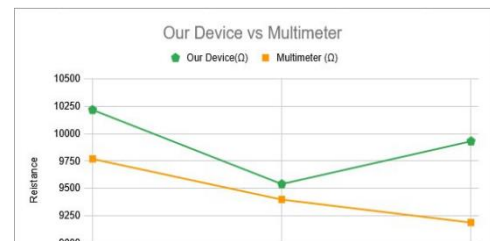

Figure 44 Represents our device versus multimeter readings
- 1- The prototype successfully achieved accurate and precise readings compared to a multimeter, as shown in Fig.44.